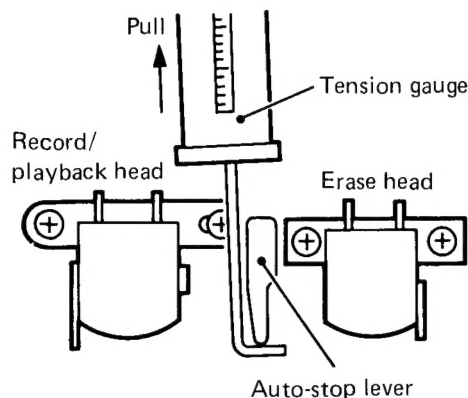

Fig. 16
- 2) Hang a tension gauge on the detection cap tip as shown in Fig. 16, then confirm that when this gauge is slowly pulled, the auto-stop lever operates in the range of 50-70 g.